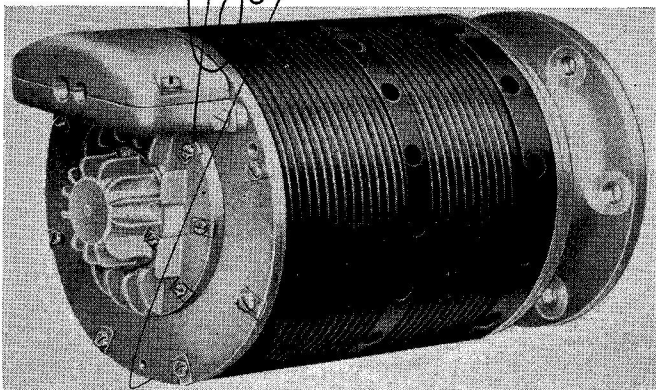
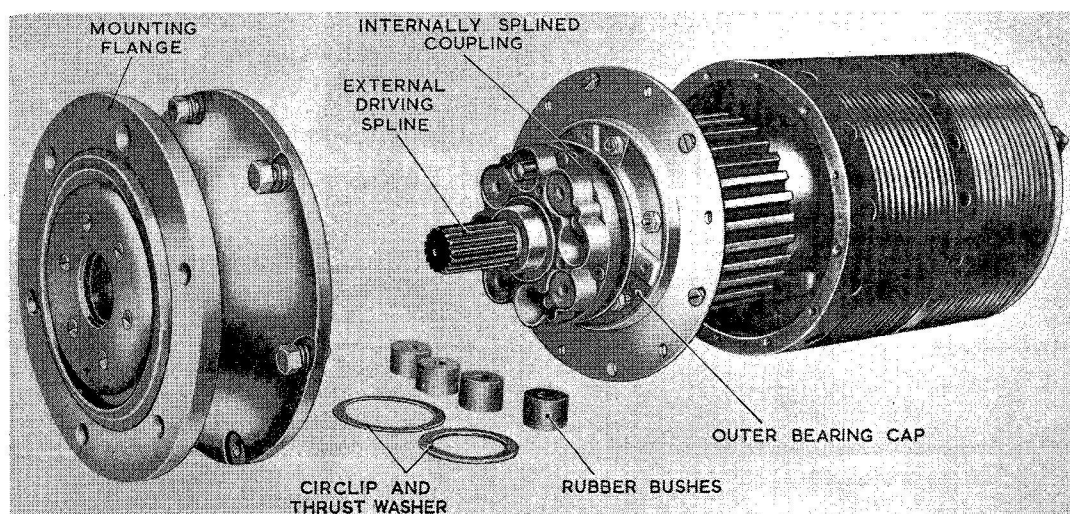

Fig. 1. Generator, Type V
Fig. 2. Partly dismantled view
1. The a.c. generator Type V (fig. 1) has been designed to give a maximum output of 15 amp. at 80V, a.c. when excited from the aircraft's 24V, d.c. system. Normally the output voltage of this generator is controlled by a control panel Type 5 with which is incorporated a voltage regulator Type EU, or the control panel Type 5A incorporating the voltage regulator Type EU2. A full description of these two control panels is given in A.P.4343B, Vol. 1, Sect. 7, Chap. 3 and 4
4. Fig. 1 shows a general view of the generator, a partly dismantled view is given in fig. 2.
6. The coupling (fig. 2) consists of an internally splined plate fitting on the rotor splines and locked with a nut and washer. Over driving pegs in this plate fits a cast coupling with an external driving spline and also having locations for eight special rubber bushes. The bushes are held in position by a thrust washer and circlip. By means of the bushes and driving pegs the drive is carried through from the external driving spline to the rotor shaft and they assist in smoothing out torsional vibrations.